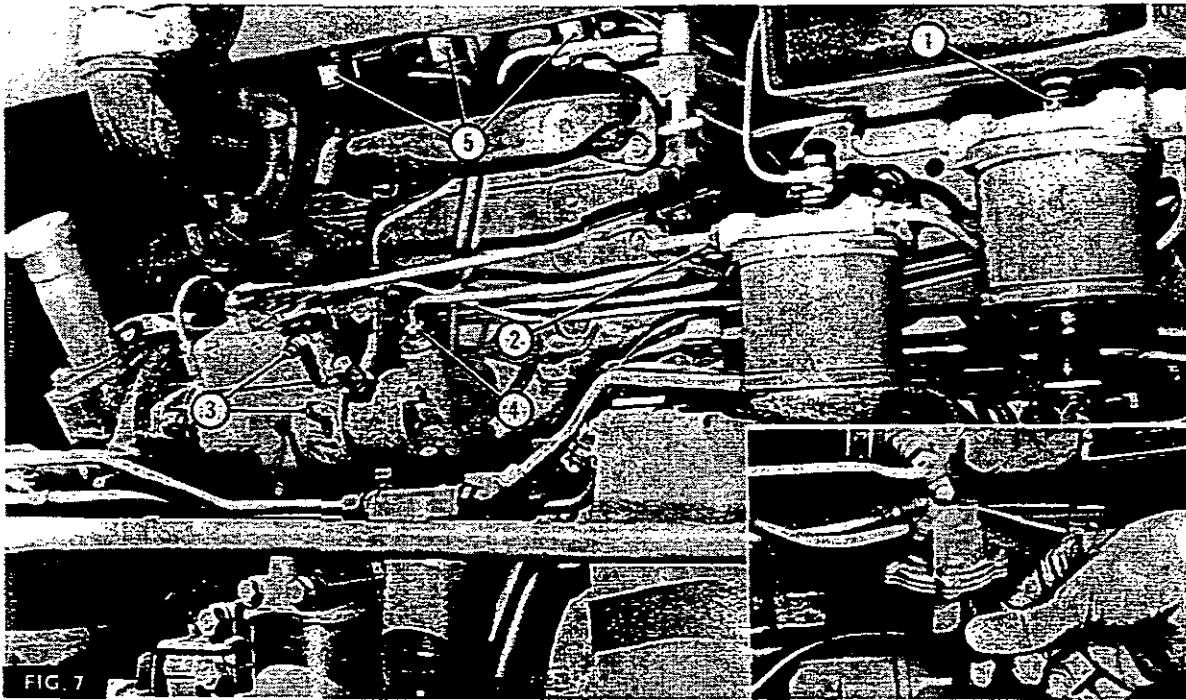

FIG. 7
1. Fig. 7. Check all fuel line connections for tightness, except those which will be slackened during the process of bleeding.
2. Slacken the vent plug on top of the primary fuel filter (1). Operate the hand priming lever (Inset Fig. 7) on the fuel lift pump until fuel free of air bubbles issues from vent plug. Tighten the vent plug.
3. Slacken the secondary fuel filter outlet union (2) and operate the hand priming lever until fuel free of air bubbles issues from the union.
4. Slacken off the two vent plugs (3), on the fuel injection pump body, and operate the hand priming lever until both vent plugs cease to exude air. Still operating the hand primer, tighten the lower and then upper vent plugs.
5. Slacken the bleed screw on the inlet pipe union (4) on the pump inlet; operate the priming lever and re-tighten when fuel free from air bubbles issues from around the threads.
6. Slacken the unions at the atomiser ends of all three pipes (5).
6. Figs 7 & 8. Fit the gauge MF 314 and check the adjustment of each release lever. The domed end of the release lever setscrew must be touching the gauge. Slacken the release lever setscrew locknut, then adjust the setscrew as required. Tighten the locknut after adjustment.